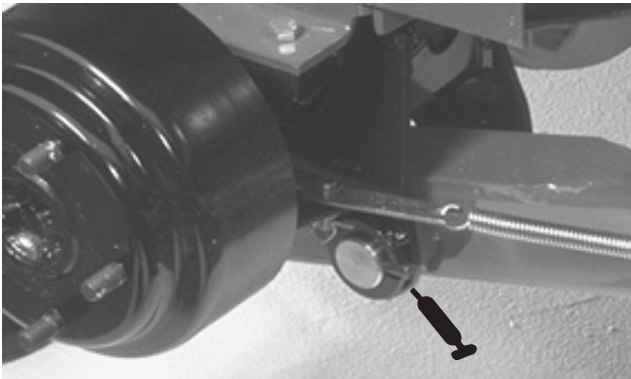

Figure 18
- right and left lift arm pivot pins (Fig. 18)